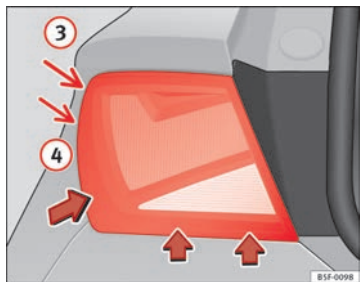

Fig. 144 Remove rear light unit from side panel
- Tilt the light in the direction of the arrows until it comes out (positions ③ and ④ ⇒ Fig. 144).